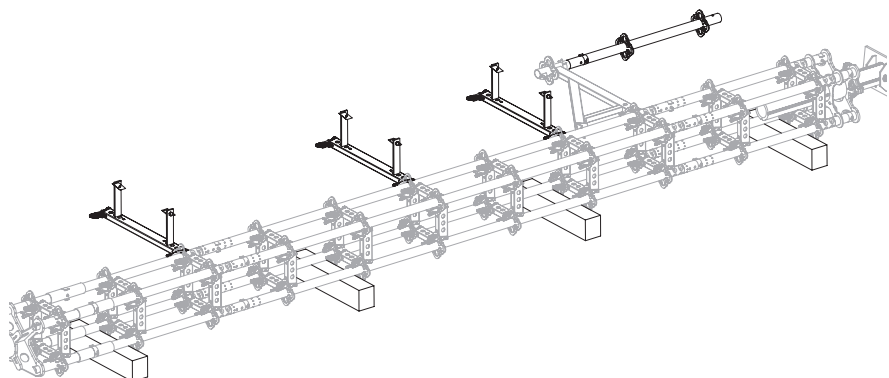

Fig. A6.06
4. Hammer the Ladder Connectors UAC-2 (**31**) into the rosettes of the standards. (Fig. A6.06 + A6.06a)